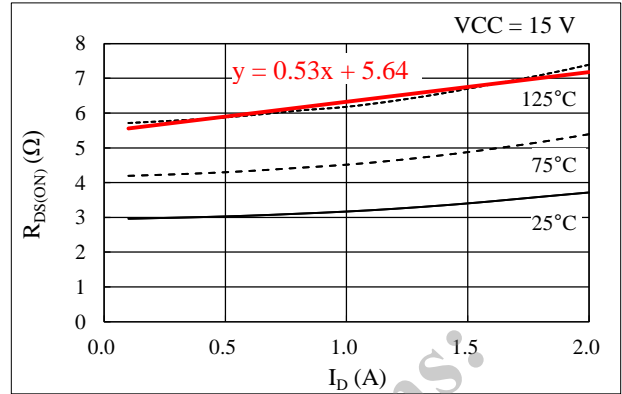

Figure 14-2. Linear Approximate Equation of $R_{DS(ON)}$ vs. I_D Curve
Steady-state loss in a power MOSFET can be computed by using the $R_{DS(ON)}$ vs. I_D curves, listed in Section 15.3.1. As expressed by the curves in Figure 14-2, linear approximations at a range the I_D is actually used are obtained by: $R_{DS(ON)} = \alpha \times I_D + \beta$. The values gained by the above calculation are then applied as parameters in Equation (7), below. Hence, the equation to obtain the power MOSFET steady-state loss, P_{RON} , is: